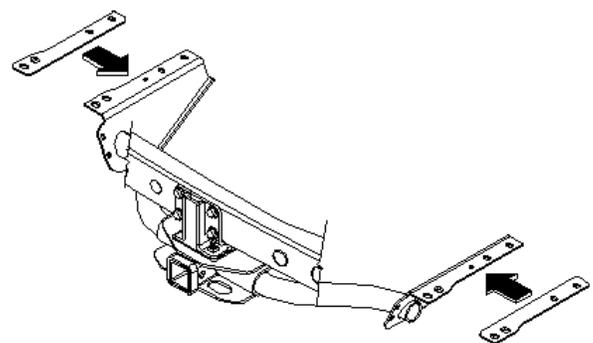

Fig. E-1
- ➔ 1. Place frame spacers between hitch brackets and vehicle frame. (Fig. E-1)